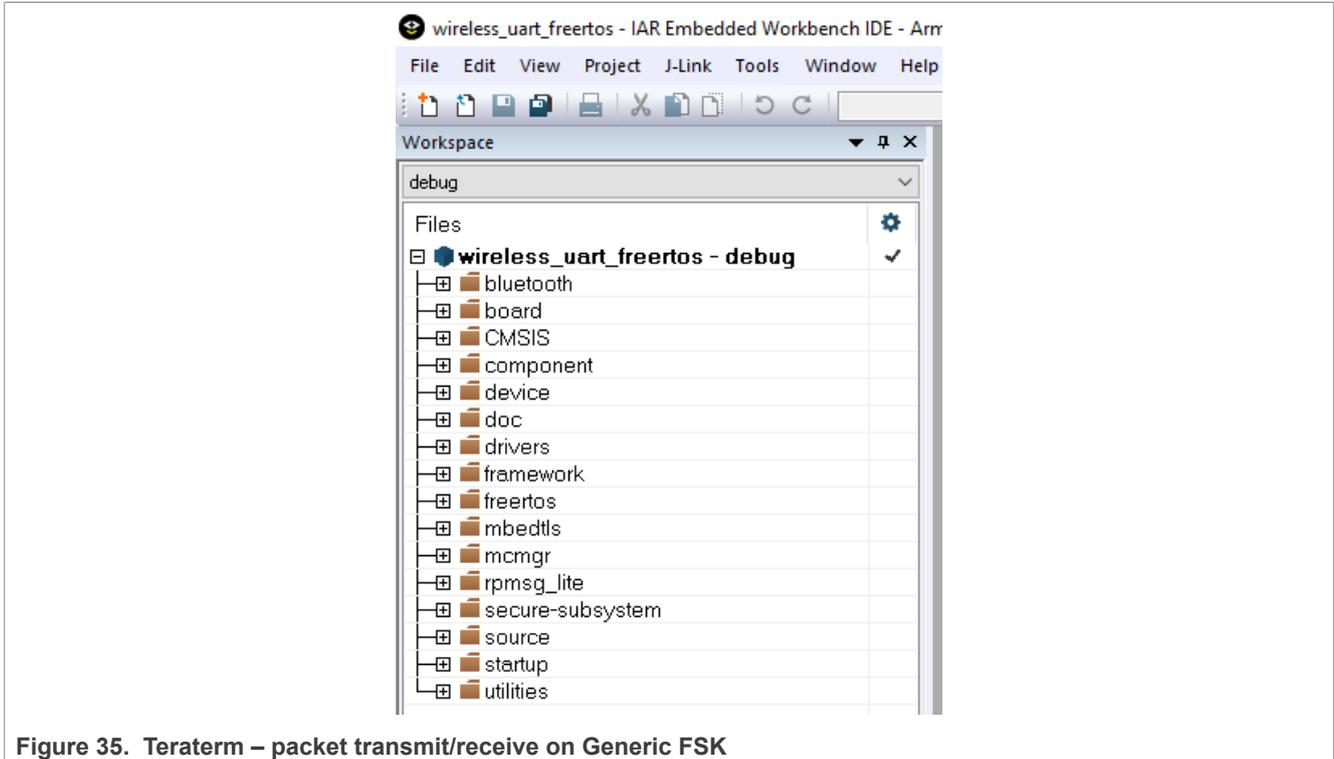

Figure 35. Teraterm – packet transmit/receive on Generic FSK
- 3. To start transmitting, on another board, long press the **ROLESW** button. The transmitting device uses an identifier known by the receiver and its packets are displayed in the CLI as shown in Figure 35.